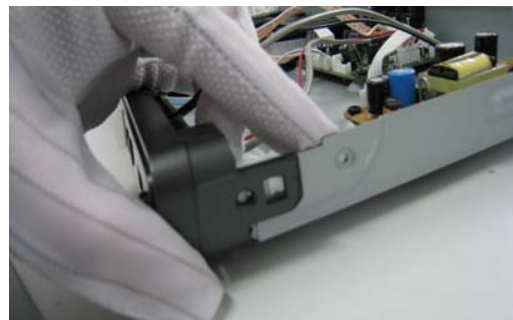

Figure 4
Step4: Dismantling Front Panel, need release 2 snaps of Front Panel & 2 snaps of bottom cabinet , then gently pull the Panel out from the set. (Figure 4)